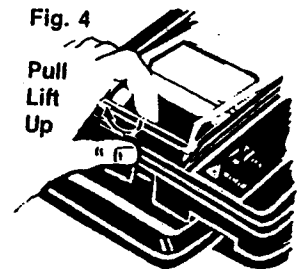

Fig. 5
- b) With strip chart roll not in recorder, locate star wheel. See fig. 5 or 6.